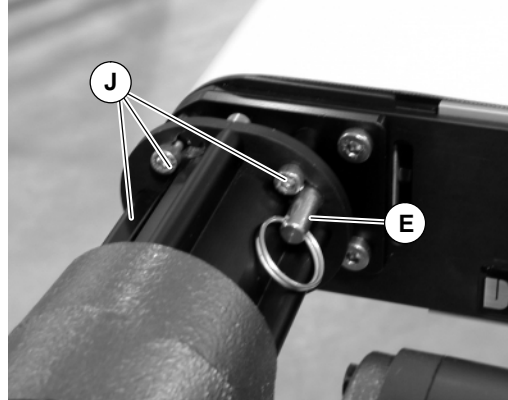

Figure 7
5. Tighten screws (J of Figure 7) to 146 in-lbs (16.5 N-m) and install anti rotation pin (E).